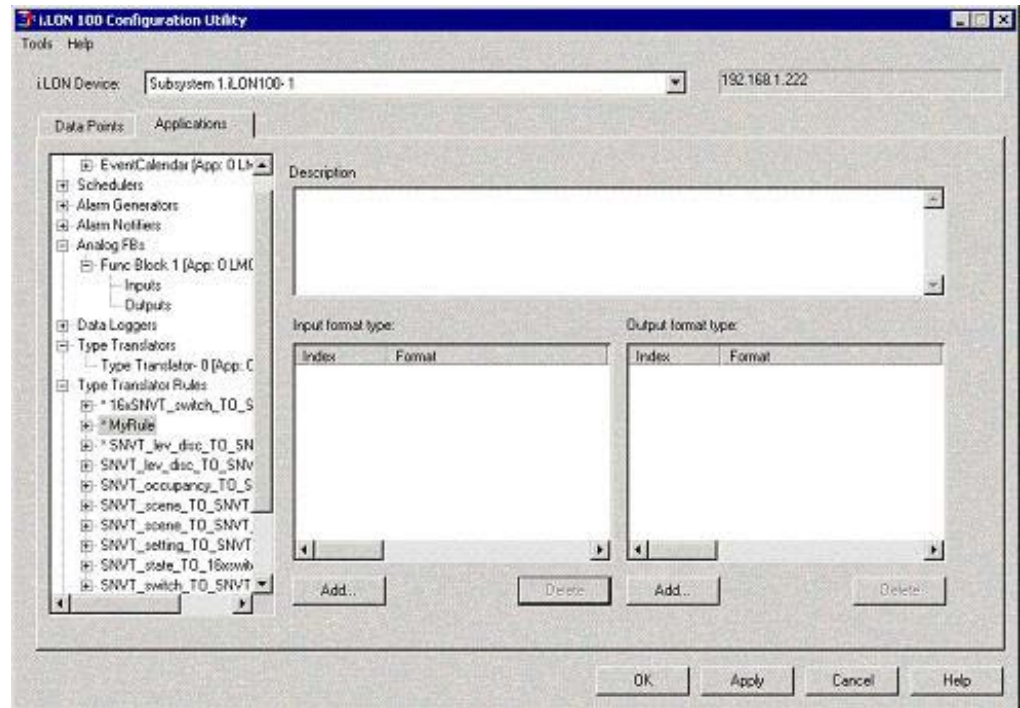

Figure 11.2 New Application Dialog
3. Select the new application to open the dialog shown in Figure 11.2.